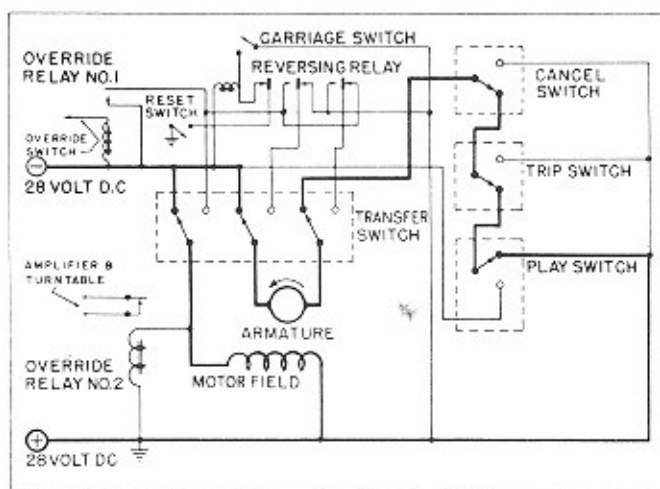

Fig. 53 PHASE 8 - TRANSFER SWITCH AND FULL CYCLE FUNCTION
h. Phase 8 -- Transfer Switch and Full Cycle Function. (Fig. 53)